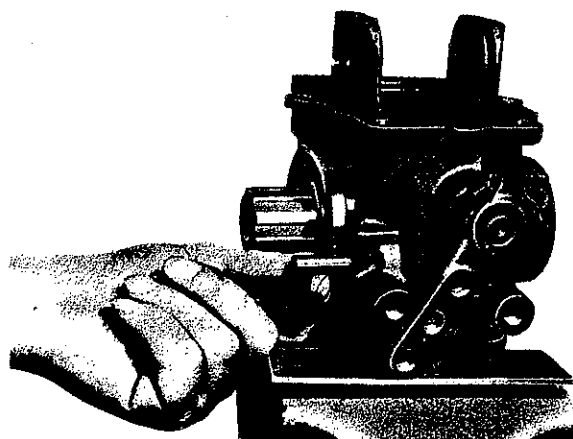

Fig. 64
- 2.6 Place selected spacing washer (23) into housing bore. Place bolt (39) with collar outwards into housing (Fig. 64). Push shaft sealing ring (26) into cover with sealing lip facing toward inside of housing. Mount gasket (24) and attach cover (25) with hex. screws (33) and spring washers (32) underneath. Make sure that the oil bores of the housing and the cover are in alignment. The tightening torque of the hex. screws (33) is 7.0 kpm.